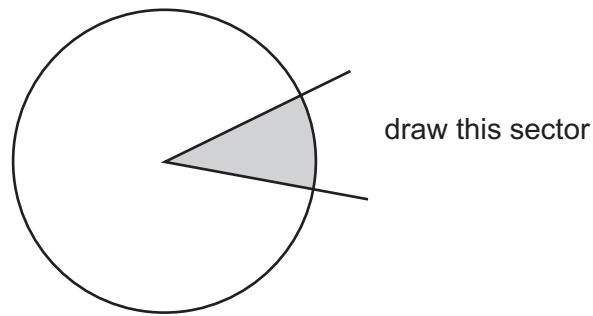

Fig. 2.1
- (a) (i)** Draw a large plan diagram of the sector of the stem on **K1**, as shown by the shaded area in Fig. 2.1.